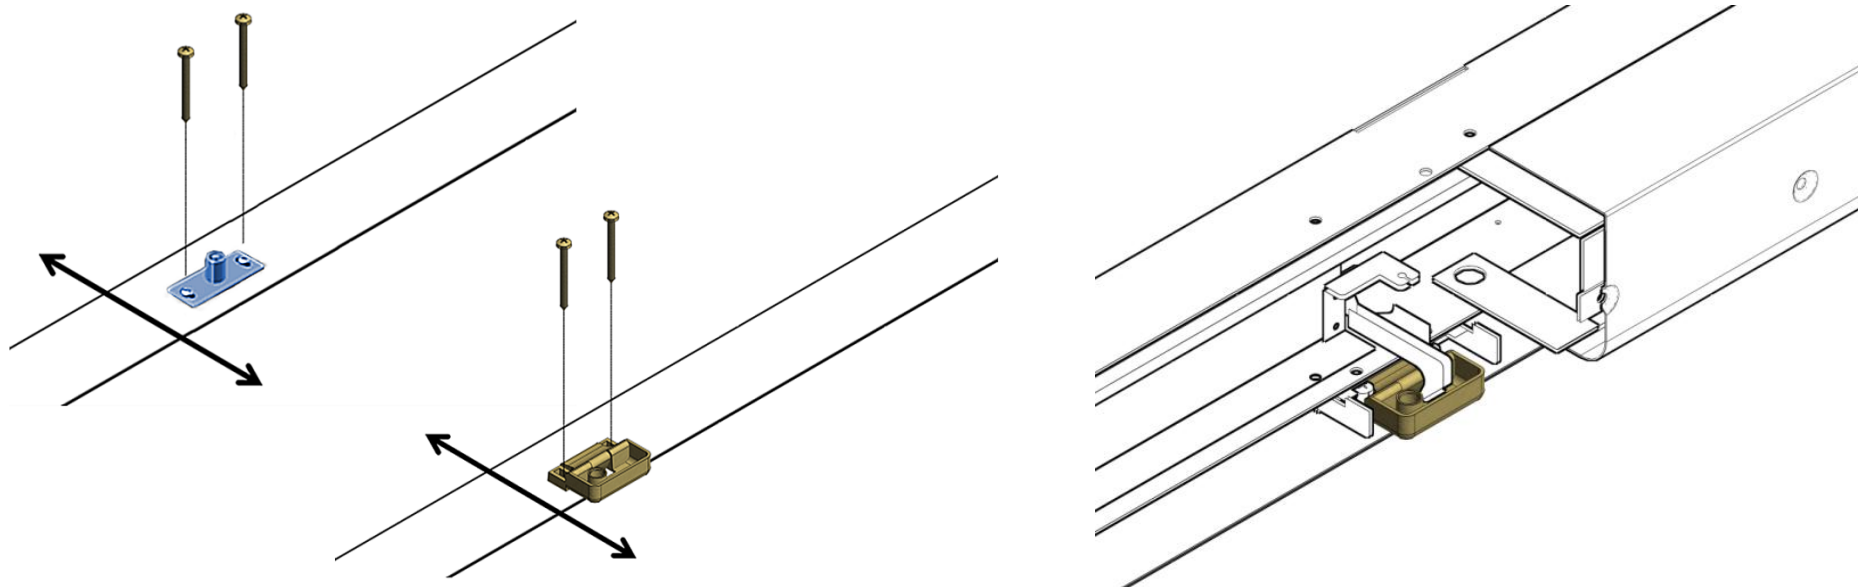

Figure 4-1
1. First locate the pipe plate and check if the position is correct; if not, loose the screws to make the adjustment as shown in Figure 4-1.
3. Release the striker screws and adjust the position of the striker along the direction shown in Figure 4-1 until the door closes without any backlash (door re-opens). Do the same for all the strikers present on the section.